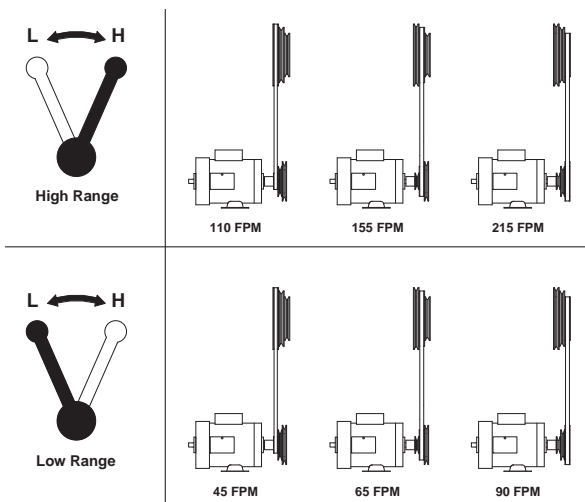
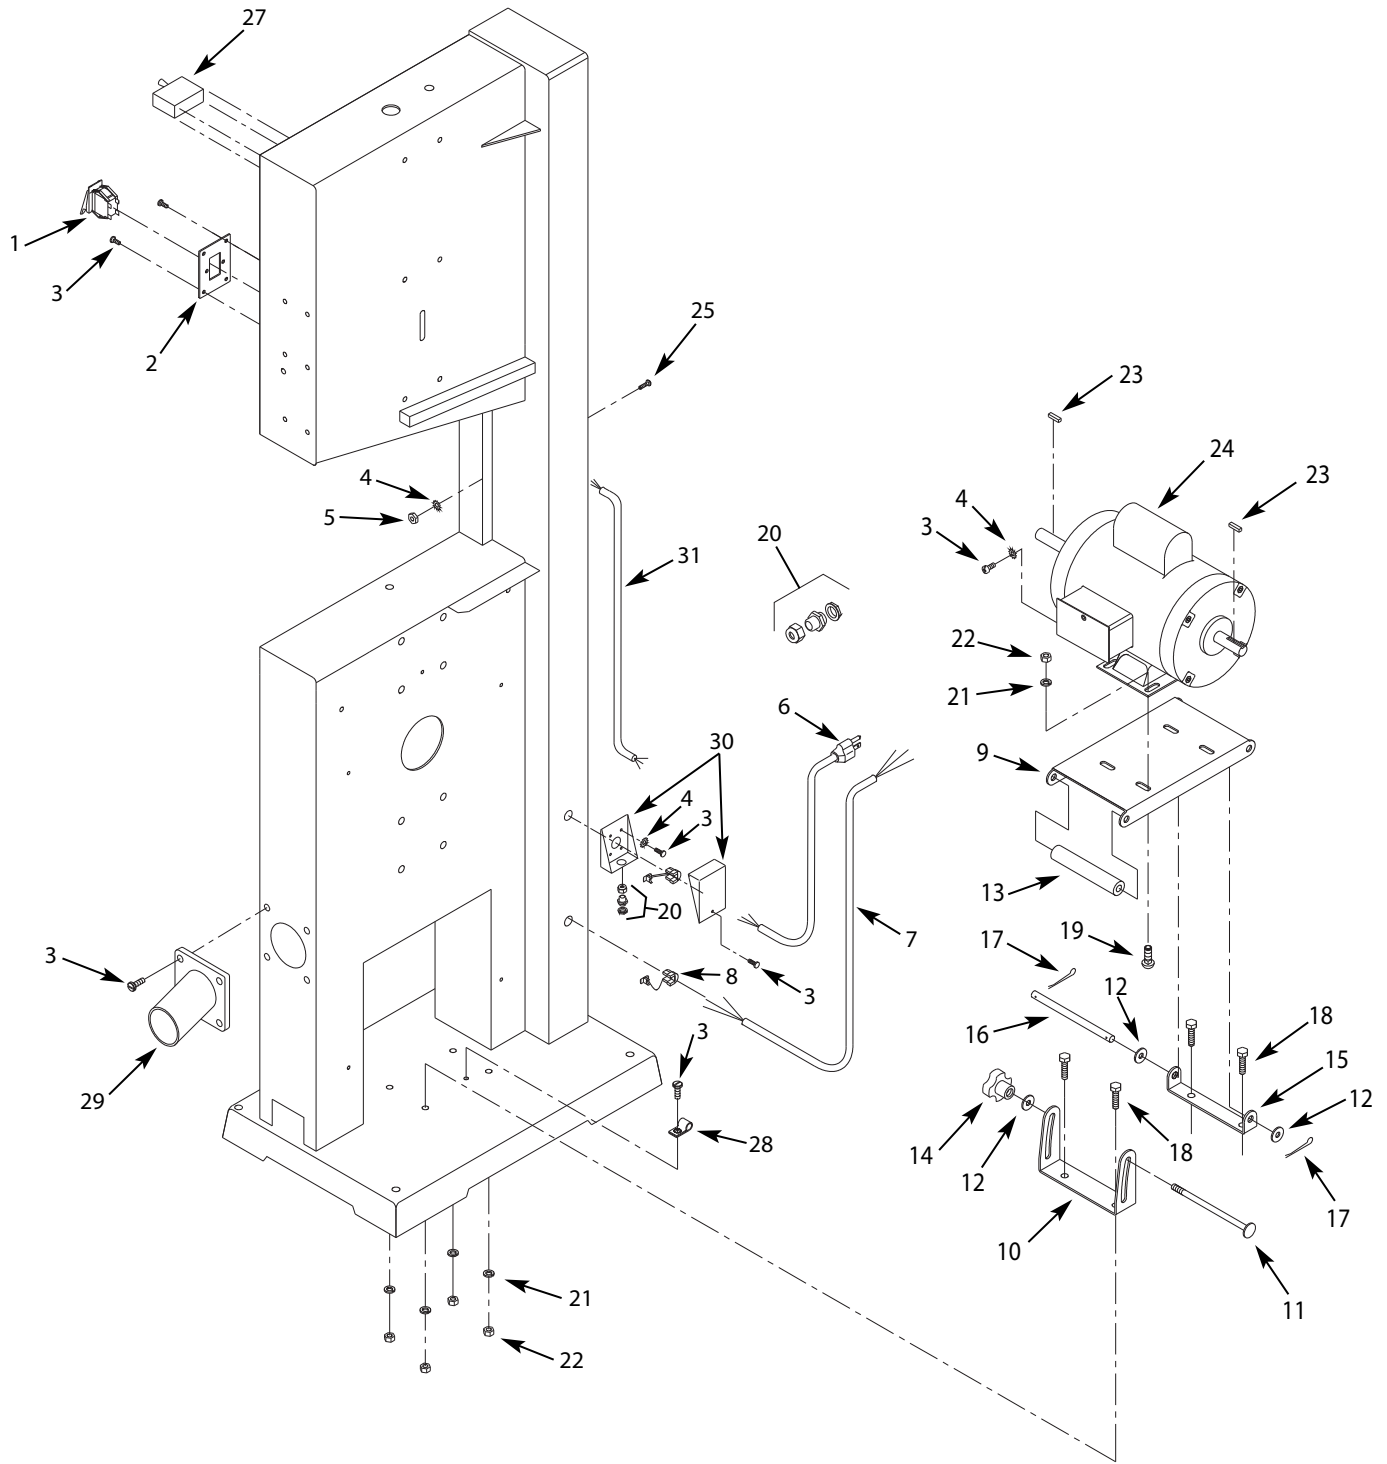

Figure 6 - Blade Speeds
Figure 7 - Replacement Parts Illustration for Motor
Refer to Figure 6.
- To change blade speed, position V-belt in proper configuration (see Figure 6). Reposition and tension V-belt as described in the next section.
Refer to Figures 6, 7 and 11.
- To change blade speed, loosen motor mount plate (Figure 7, Ref. No. 9) by loosening knob (Figure 7, Ref. No. 14). Position V-belt on motor and idler pulleys as required. See Figure 6, Blade Speeds, for recommended pulley and belt settings.
- Loosen knob (Figure 7, Ref. No. 14). Remove V-belt from motor and idler pulleys (Figure 11, Ref. Nos. 38 and 40).
- Loosen knob (Figure 7, Ref. No. 14). Remove V-belt from motor and drive pulleys (Figure 8, Ref. Nos. 46 and 50).